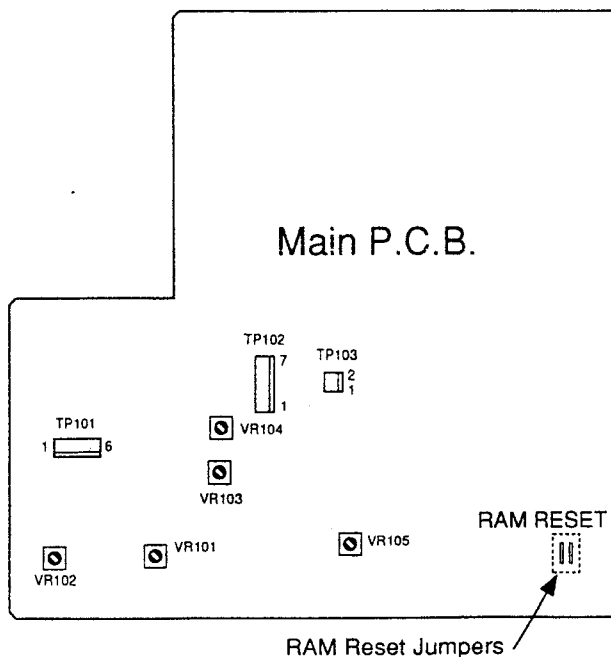

Fig. 1.3 Stoker Operation Check at Power ON
- (1) Turn OFF the power.
- (2) Remove the Top Cover Ass'y.
- (3) Short the RAM Reset jumper wires. See Fig. 1.3.
- (4) Turn ON the power and then remove shorting.
- (5) The stoker raises to the uppermost position, and then starts a series of CD unload operation as follows: